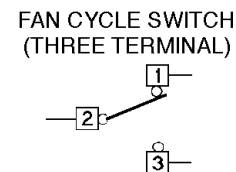

FIGURE 57 — FAN CYCLE SWITCH (3 Terminal)
2. Label and remove the leads connected to fan cycle switch. See Figure 57.